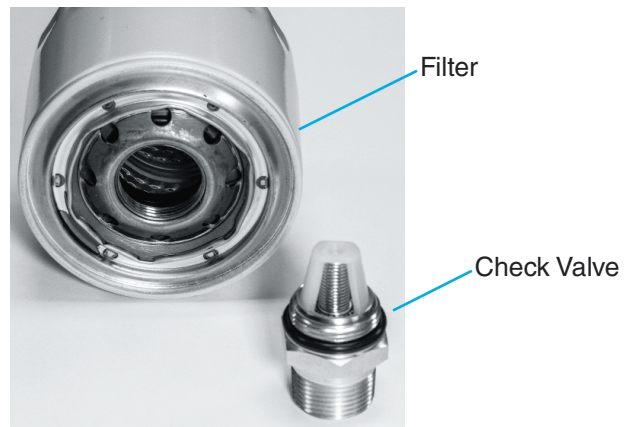

Figure 14 Breather Assembly
5. Remove the check valves. Discard the old filters in accordance with local regulations. See Figure 14.